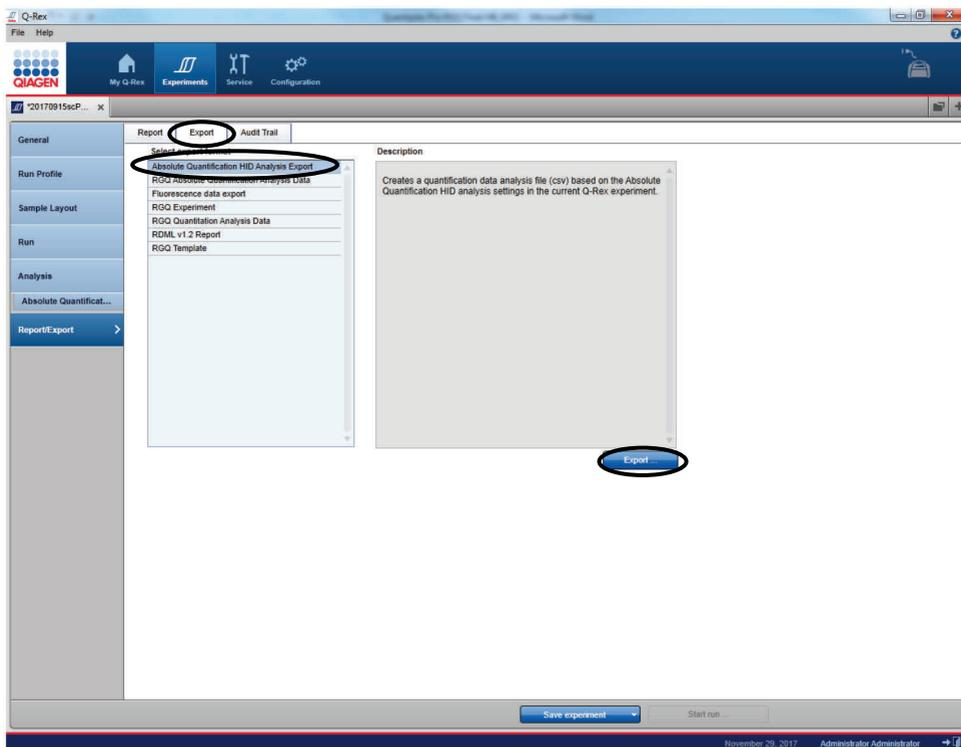

Figure 35. Exporting data to Q-Rex.
19. Select "Export sheet" (Figure 35).
20. Confirm export format as "Absolute Quantification HID Analysis Export" (Figure 35).
21. Click "Export" (Figure 35).